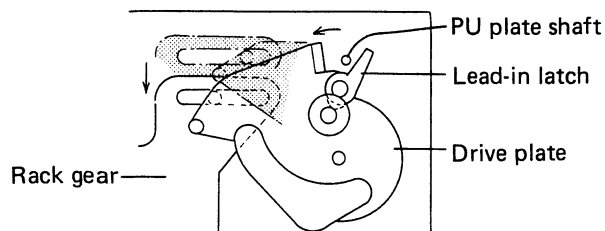

Fig. 5-12 Tone arm attachment
11. The tonearm section may be removed by loosening screw ④.
12. The tonearm section is assembled prior to assembling to the slide base. Also, attach the PU plate shaft positioned between the drive plate and the lead-in latch (slide the rack gear slightly forward and hold the lead-in latch in an open position during assembly. After assembly, return the rack to its back position) (Figure 5-12).